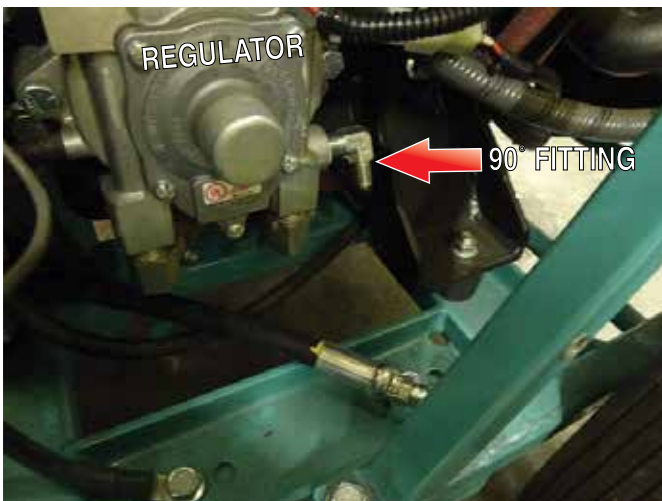

Figure 23. 90° Fitting Installation
19. Insert 90° fitting (P/N 32833) into regulator port (Figure 23). **Do not** tighten securely at this time.